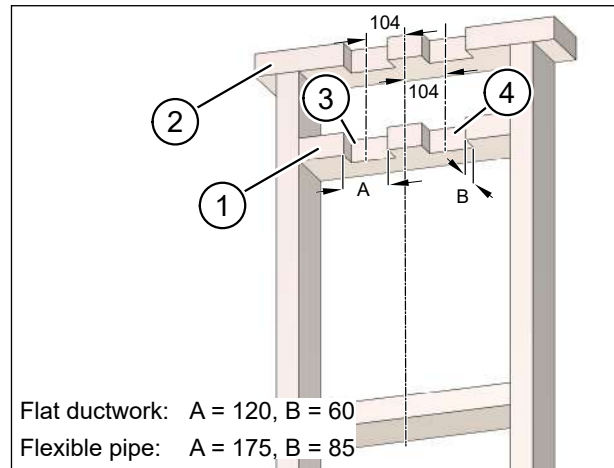

Fig. 46: Sawing channels for flat ductwork or flexible pipes, dimensions in millimetres
- ▶ Saw two channels for the extract air duct (item 3 in Fig. 46) and supply air duct (item 4 in Fig. 46) in the upper batten (item 1 in Fig. 46) and the ceiling joist (item 2 in Fig. 46).
- 120 mm wide (item A in Fig. 46)
- 60 mm deep (item B in Fig. 46)
- 175 mm wide (item A in Fig. 46)
- 85 mm deep (item B in Fig. 46)